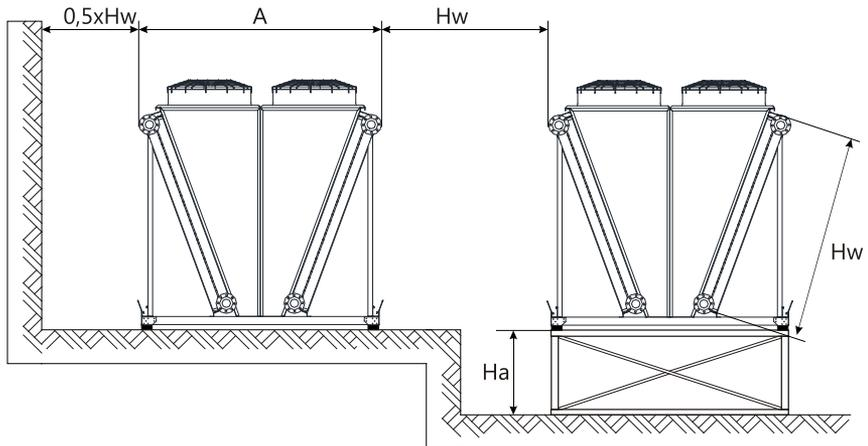

Fig. 3. Optimum settings of CHW-V cooler
The air stream must not be obstructed due to air demand; optimum setting in parallel arrangement is provided in Fig. 3. If it is necessary to reduce Hw distance, coolers should be set on a support structure of Ha height so as to ensure sufficient access of air. The structure should be provided in accordance with valid standards and building regulations. Height of the structure should be determined on arrangements with the manufacturer.
- » Due to air demand, optimum setting in parallel arrangement is provided in Fig. 3. If it is necessary to reduce Hw distance, coolers should be set on a support structure of Ha height so as to ensure sufficient access of air. The structure should be provided in accordance with valid standards and building regulations. Height of the structure should be determined on arrangements with the manufacturer.